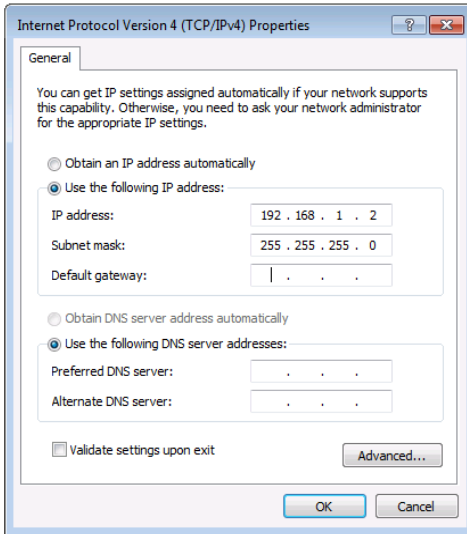

Figure 26: Internet Protocol Properties Window
6. Select **Use the following IP Address** for static IP addressing and fill in the details as shown in Figure 26.